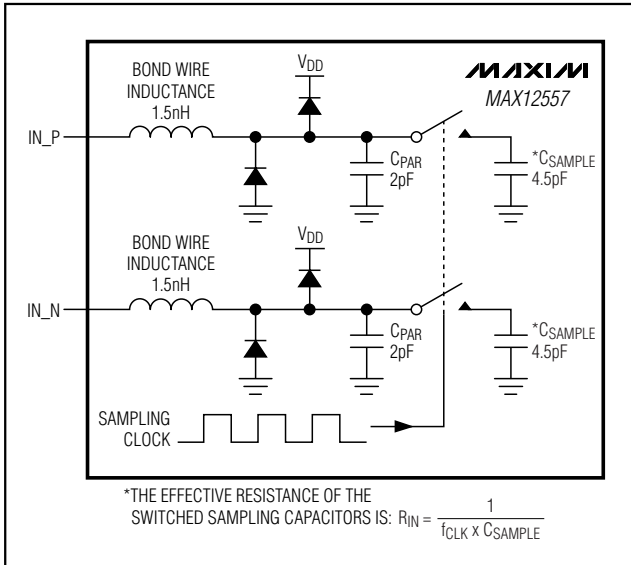
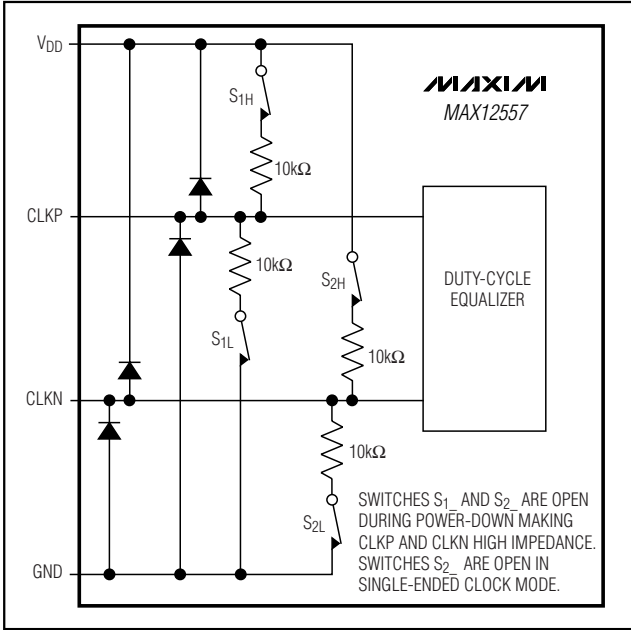

Figure 3. Internal T/H Circuit
Figure 4. Simplified Clock Input Circuit
Figure 3 displays a simplified functional diagram of the input T/H circuit. This input T/H circuit allows for high analog input frequencies of 175MHz and beyond and supports a $V_{DD} / 2$ common-mode input voltage.
The MAX12557 sampling clock controls the switched-capacitor input T/H architecture (Figure 3) allowing the analog input signals to be stored as charge on the sampling capacitors. These switches are closed (track mode) when the sampling clock is high and open (hold mode) when the sampling clock is low (Figure 4). The analog input signal source must be able to provide the dynamic currents necessary to charge and discharge the sampling capacitors. To avoid signal degradation, these capacitors must be charged to one-half LSB accuracy within one-half of a clock cycle. The analog input of the MAX12557 supports differential or single-ended input drive. For optimum performance with differential inputs, balance the input impedance of IN_P and IN_N and set the common-mode voltage to mid-supply ($V_{DD} / 2$). The MAX12557 provides the optimum common-mode voltage of $V_{DD} / 2$ through the COM output when operating in internal reference mode and buffered external reference mode. This COM output voltage can be used to bias the input network as shown in Figures 9, 10, and 11.
The MAX12557 accepts both differential and single-ended clock inputs with a wide 25% to 75% input clock duty cycle. For single-ended clock input operation, connect DIFFCLK/SECLK and CLKN to GND. Apply an external single-ended clock signal to CLKP. To reduce clock jitter, the external single-ended clock must have sharp falling edges. For differential clock input operation, connect DIFFCLK/SECLK to OV_{DD}. Apply an external differential clock signal to CLKP and CLKN. Consider the clock input as an analog input and route it away from any other analog inputs and digital signal lines. CLKP and CLKN enter high impedance when the MAX12557 is powered down (Figure 4).
- 1) INAP/B, INAN/B analog inputs are disconnected from the internal input amplifier (Figure 3).
- 6) CLKP, CLKN clock inputs enter a high-impedance state (Figure 4).